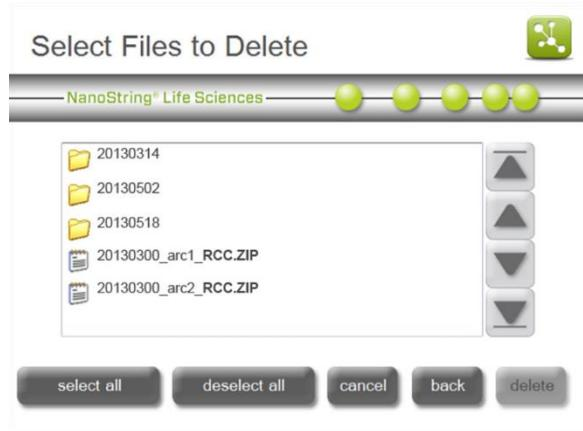

Figure 156: The ‘Select Files to Delete’ screen.
1. To cleanup RCC files, press **RCC** on the ‘Disk Cleanup’ screen. The ‘Select Files to Delete’ screen will appear (**Figure 156**).